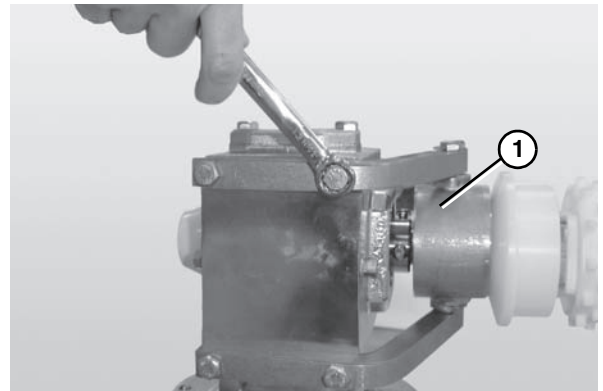

Figure 61
4. Unbolt the drive assembly and slide it off the bearing spindle (**Figure 61, item 1**). Retain key from spindle keyway.